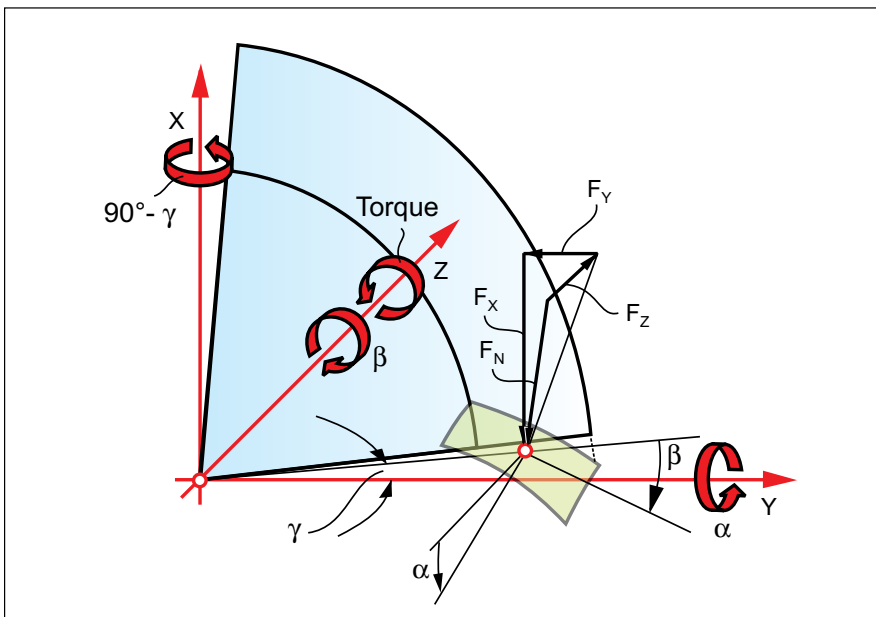

Figure 9—Bearing reaction load calculation.
A formula derivation to calculate bearing forces is shown below. The formulas are based on the assumption that one pair of teeth transmits the torque with one normal force vector in the mean point of the flank pair. Figure 9 shows a graphical representation of the following derivation:
- The observed flank is rotated with the mean point into the horizontal Y-Z plane. The force F_x is the tangential force that transmits the torque. The normal force vector is found by a vector rotation from an X-orientation and in three steps—pressure angle, spiral angle and pitch angle—shown in Equation 3. With knowledge of the tangential component, the solution of Equation 7 can be plugged into Equations 4, 5 and 6 in order to find a universal solution in Equations 8, 9 and 10 for the bearing loads of one particular member. In the case of a right-hand, spiral-angle β , the sign is positive. In the case of a left-hand, spiral-angle β , the sign is negative. If the torque develops a force F_x pointing in contrast to Figure 9 to the positive X-direction, then α and T must be applied with a negative sign.